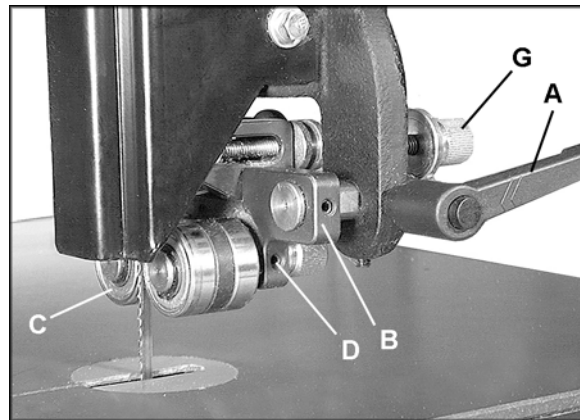
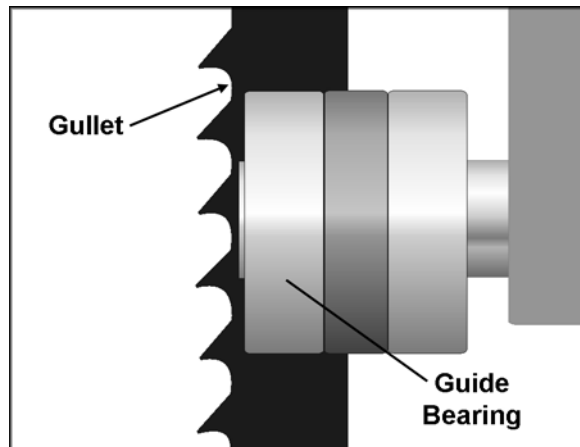
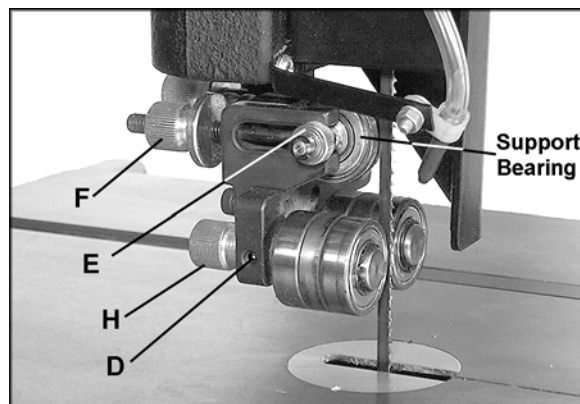

Figure 17
Figure 18
Figure 19
3. Loosen the locking handle (A, Figure 17).
4. Adjust the guide bracket (B, Figure 17) by rotating knob (G, Figure 17) until the front of the guide bearings (C, Figure 17) are just behind the blade's gullet (curved area at the base of the tooth). See Figure 18.
5. Tighten the locking handle (A, Figure 17).
6. Loosen set screw (D, Figure 17) on the guide bearing assembly, with a 3mm hex wrench. (Figure 17 shows the set screw for the right hand bearing; the set screw for the left hand bearing is shown in Figure 19.)
7. The guide bearing rotates on an eccentric shaft. Adjust the guide bearing, by rotating the knob (H, Figure 19) until the guide bearing rests lightly against the blade. Do not force the guide bearing against the side of the blade.
8. Tighten set screw (D, Figure 17).
9. Repeat the process for the other guide bearing. After adjustment, make sure the set screw (D, Figure 19) is tightened.
10. Loosen nut (E, Figure 19).
11. Adjust the support bearing using the knob (F, Figure 19) until the space between the support bearing and the back edge of the blade is approximately $\frac{1}{64}$ ". A convenient way to achieve this spacing is by placing a dollar bill folded twice (four thicknesses of a dollar bill is approximately $\frac{1}{64}$ ") between blade and support bearing.
13. When support bearing adjustment is complete, remove dollar bill and tighten nut (E, Figure 19).